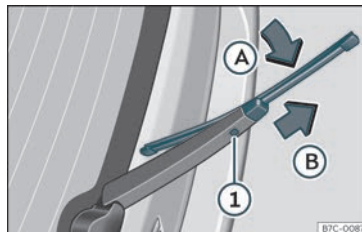

Fig. 37 Changing the rear wiper blade
- Turn the blade slightly »» Fig. 37 (arrow A).
- Hold down the release button ❶ while gently pulling the blade in the direction of arrow B.
- Insert a new blade of the **same length and type** in the rear wiper arm in the opposite direction to the arrow B and hook into place button ❶.